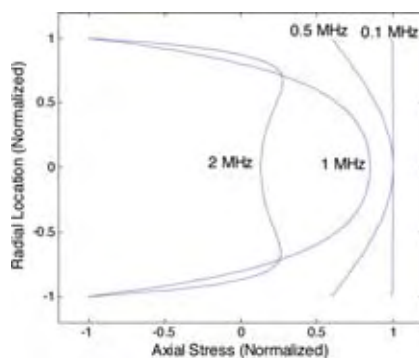

Fig. 4: Radial variation of axial stress for the 1st longitudinal rod mode.
The radial variation of axial stress as a function of frequency for the fundamental longitudinal mode is depicted in Fig. 4. The stress curves were computed using the displacement functions in Eqn. (3). The curves were normalized by set-